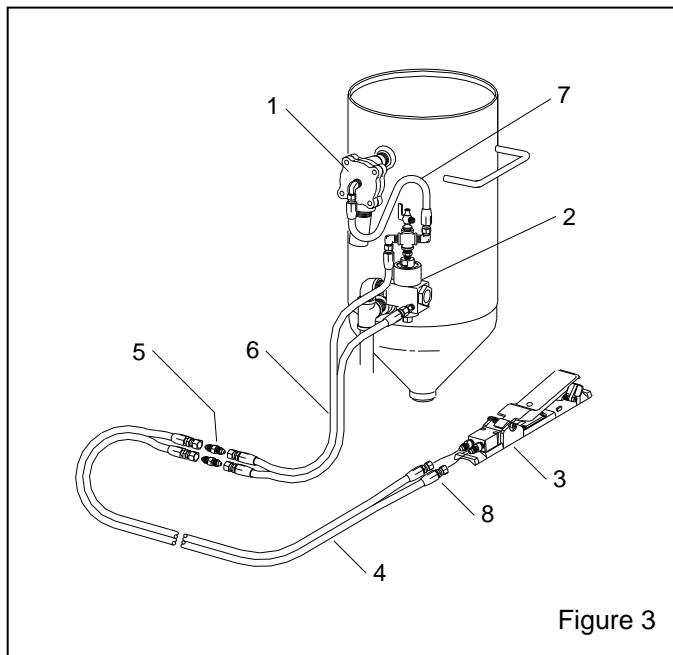

Figure 3
7.3 System Replacement Parts, Figure 3